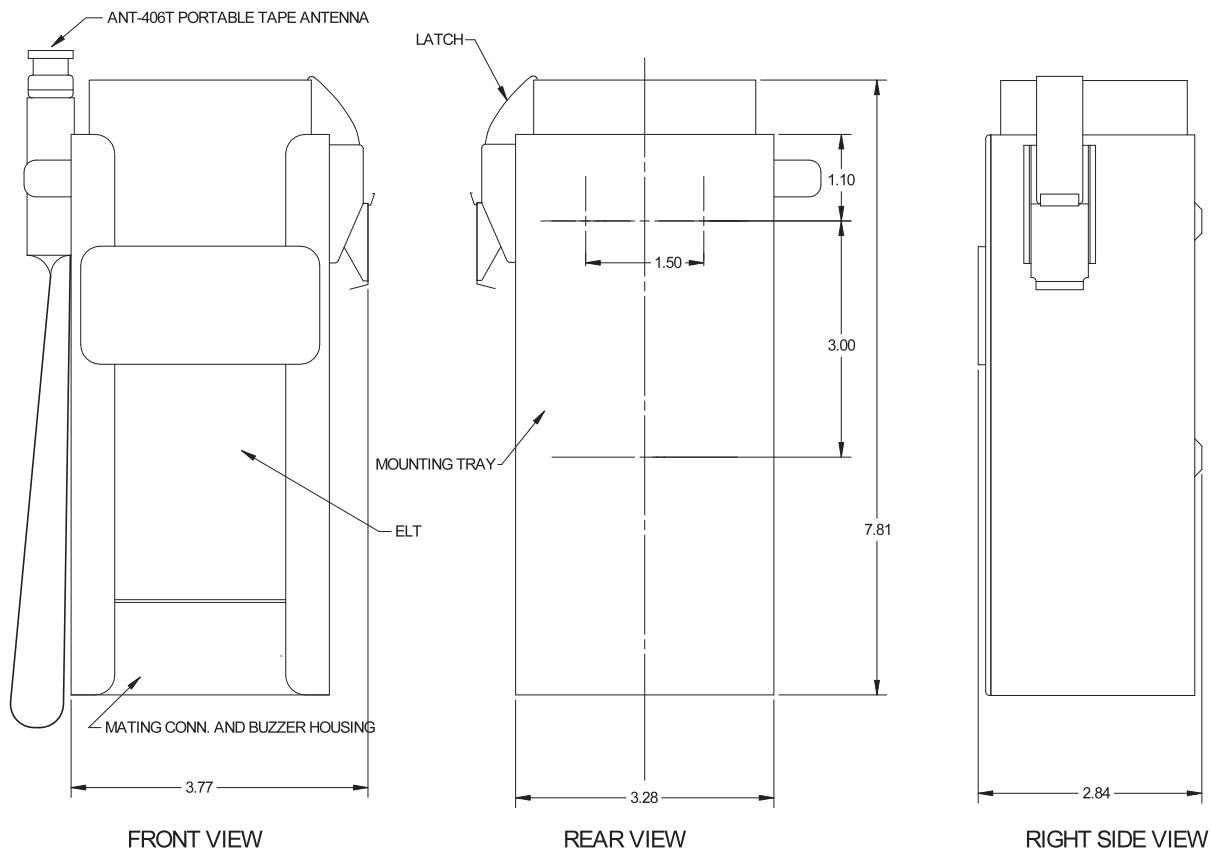

FIGURE 1: EBC-406 ELT OUTLINE WITH HOLE PATTERN
- Use the mounting bracket as a template to mark out the holes needed for installation, or refer to Figure 1 for dimensions.